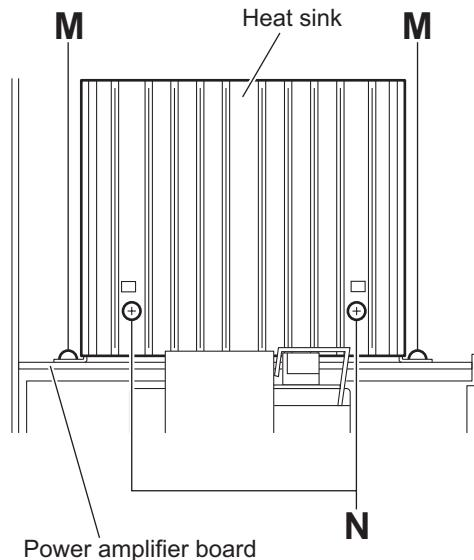

Fig.18
(See Figs.18 and 19)
- (1) From the top side of the main body, remove the two screws **M** attaching the heat sink on the power amplifier board. (See Fig.18.)
- (2) From the side of the power amplifier board, remove the two screws **N** attaching the heat sink. (See Fig.18.)